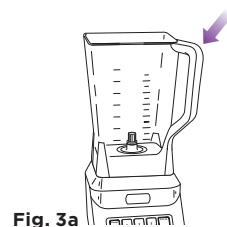
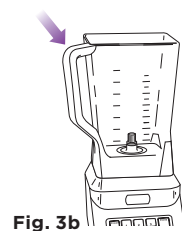

Fig. 3a
Fig. 3b
- 4 The pitcher or bowl can be placed on the motor base two ways; the handle can be on the front right corner or the front left corner. (Fig. 3a, Fig. 3b)